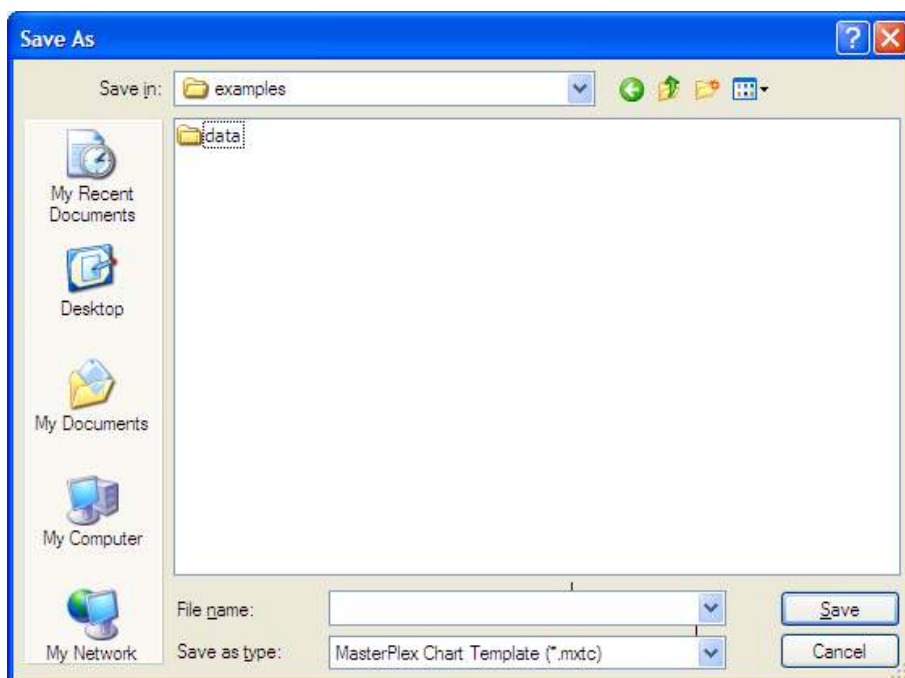

Figure 7.15 Save As dialog box
- ⇒ The Save As dialog box appears (Figure 7.15).